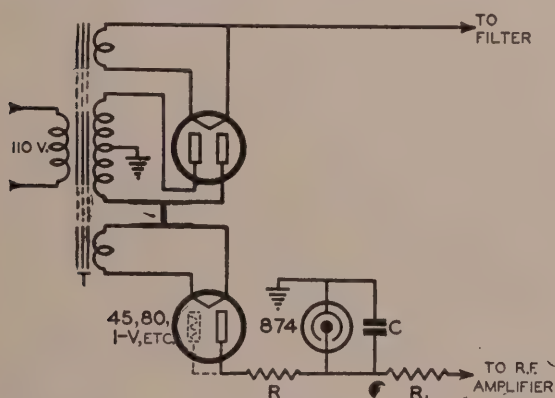

Figure 1
3) *Gaseous Discharge Tubes*—The 874 and similar argon and neon discharge tubes have the property of holding the potential across their two elements at, or very near to, 90 volts, regardless of the current through them. Different types have different maximum current ratings, but since the 874 is the only one commonly available, it will be the one considered. It has a maximum current rating of 50 ma. With one or more of these tubes (depending on the bias requirements of the amplifier) and a small amount of additional equipment, we can make a very neat and convenient bias supply. Figure 1 shows how it is done.